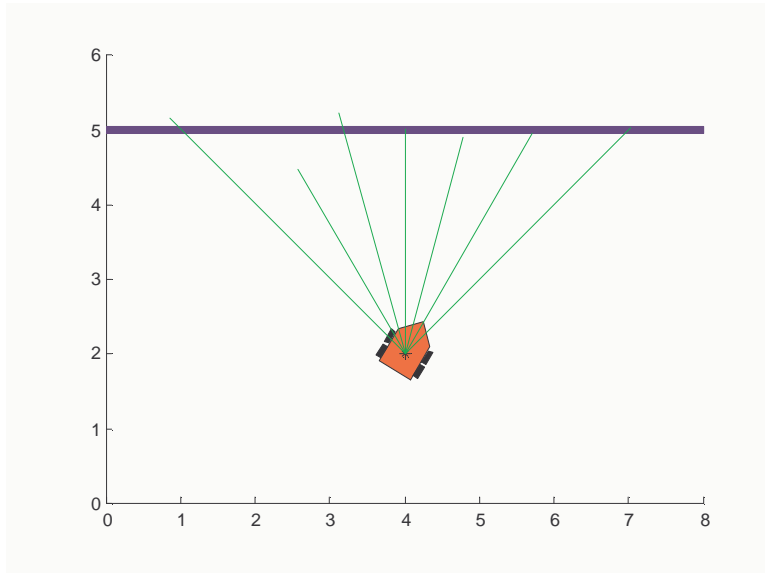

Figure 1: Corrupted Sonar Range Measurements
- a. Assume the existence of a wall at $y=5$ meters as in Figure 1 above.